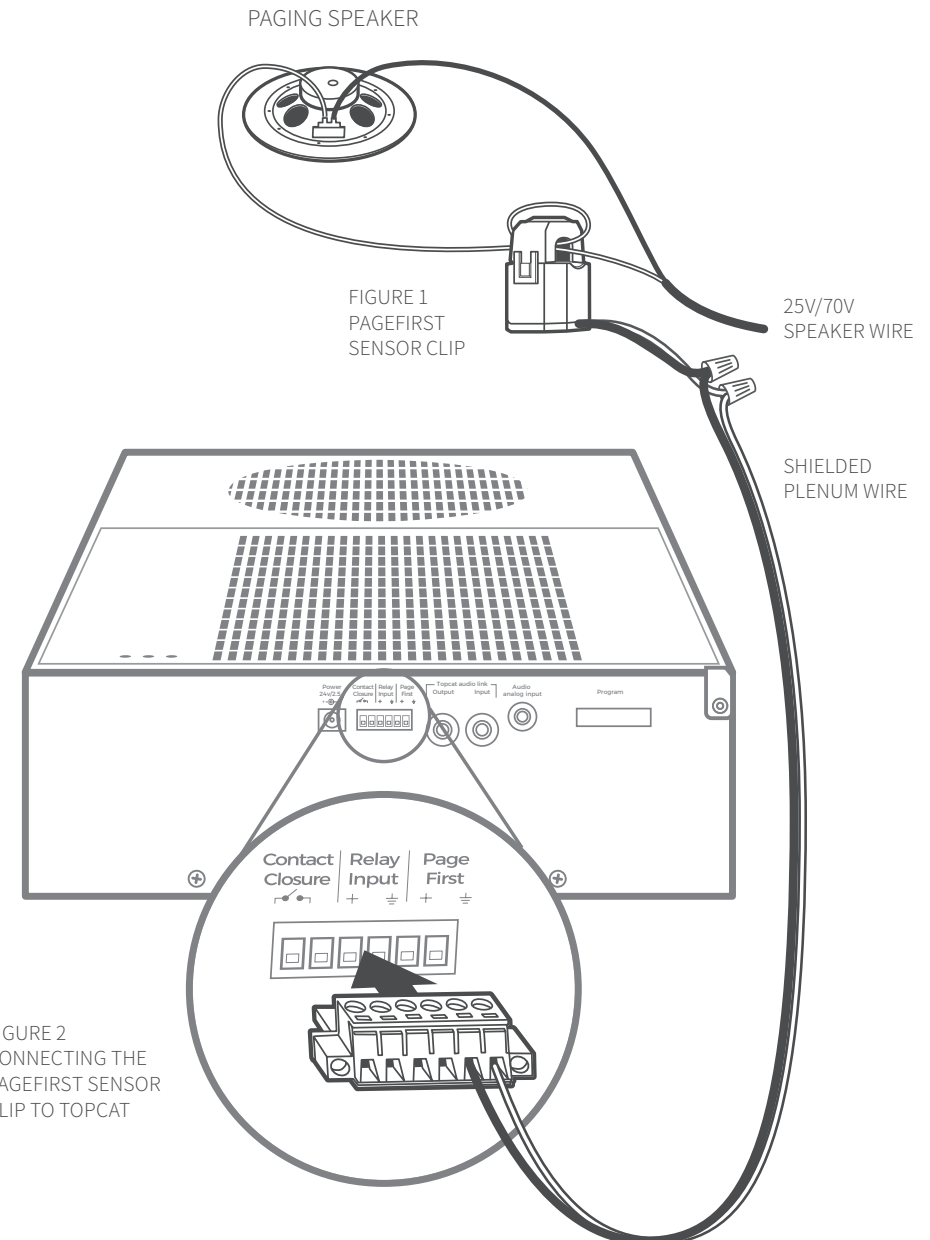

FIGURE 2
1. Insert the euro-block connector of the wire into the PageFirst input jack on Topcat. Secure with a screw driver by tightening the screw on the left and right sides of the terminals (Figure 2, previous page).